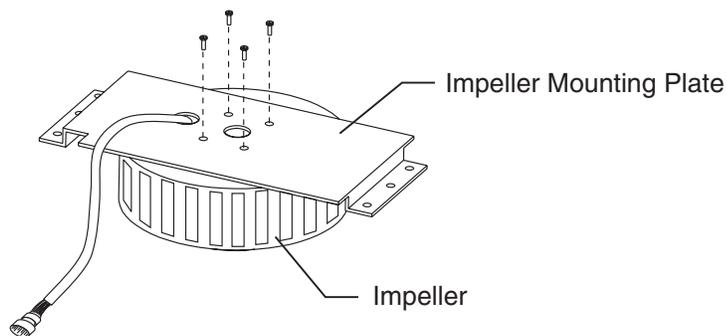

Figure 8-6: Replacing the Impeller
6. Remove the impeller by removing the four screws from the back of the impeller mounting plate. See Figure 8-6. Replace with new impeller.